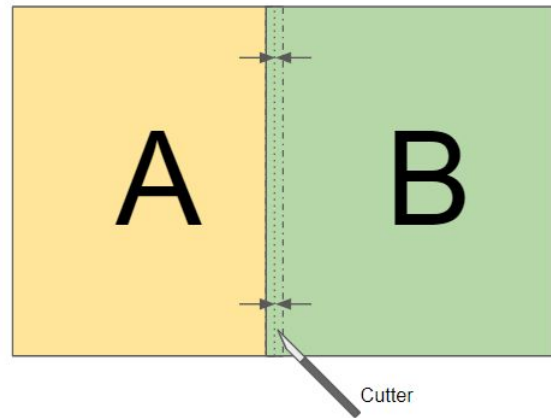

Fig 2
- Double-cut overlap seams: also called butt seams. No overlap of the film is required. This technique provides a smooth and clean finish to the seams. **Fig 2**